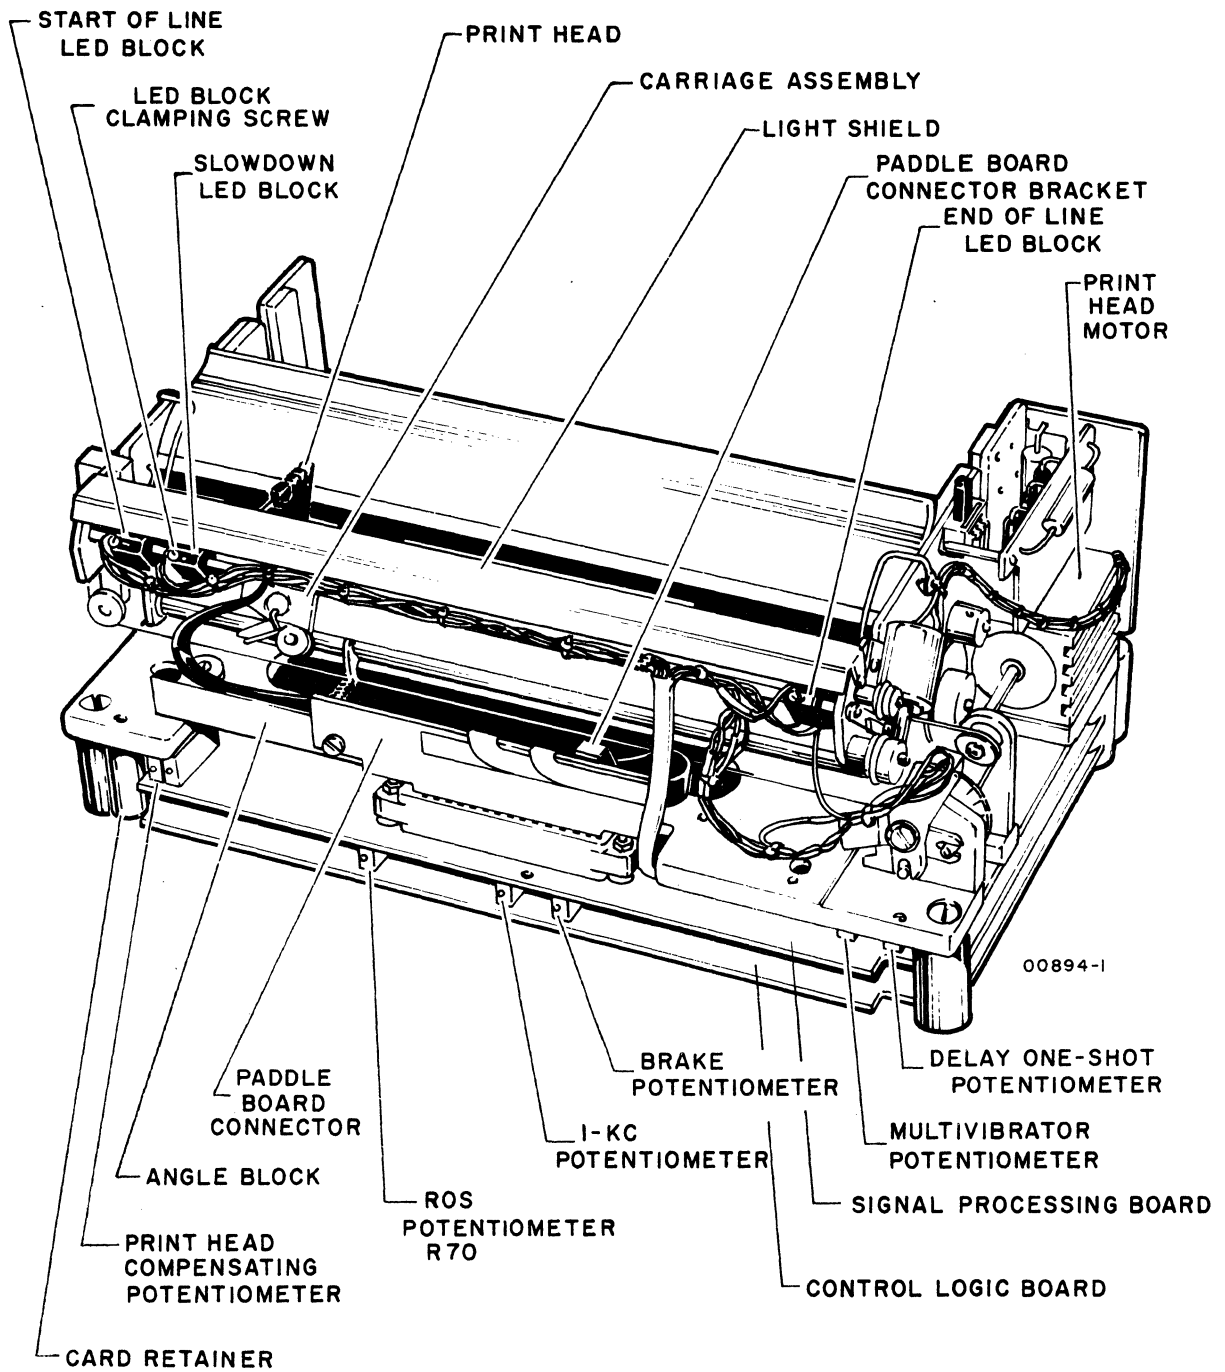

Figure NIP2. Printer, Front View
- 13) Trigger oscilloscope on CR test point at front of control logic board (figure NIP2) and set trigger to external (+). Connect oscilloscope probe to SD test point.
The serial input clock must be adjusted so that it occurs as close as possible to the center of each data bit time. This provides tolerance for input signal distortion. There are two interacting adjustments required to properly position the clock pulses: (1) delay one-shot time and (2) multivibrator frequency. The delay one-shot time determines the position of the first clock at data bit one time. The multivibrator frequency determines the position of the subsequent clock pulses. See figures NIP2 and NIP9 and proceed as follows.